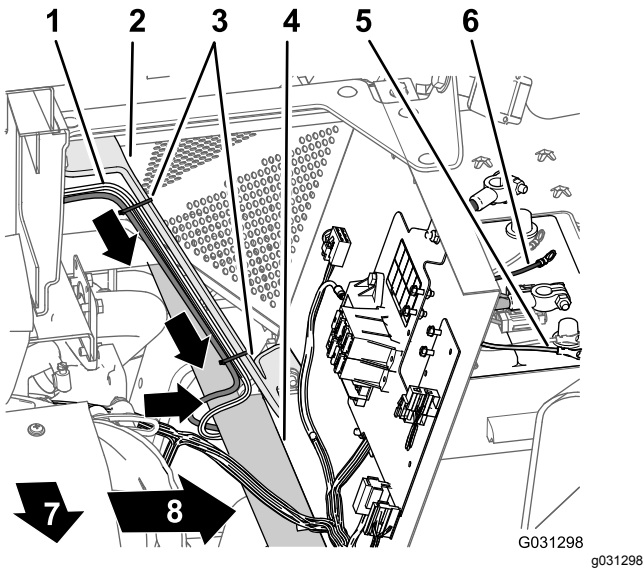

Figure 172
- Secure the harness to the hole in the seat-box angle and the engine-shroud support with 3 cable ties (Figure 171 and Figure 172).
- Route the 10 A fuse and the positive and negative ring terminals of the 220 cm (86-5/8 inches) branch of the electrical harness for the navigation system to the top of the battery (Figure 172).